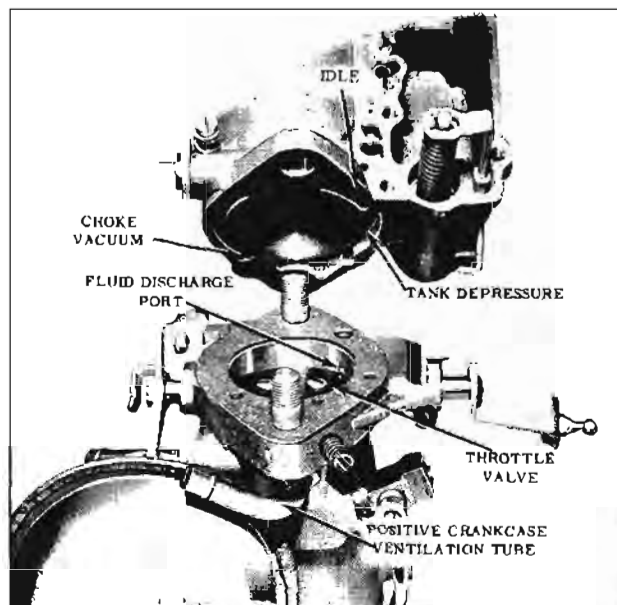

Fig. 9-125 Throttle Body Gasket
1. Install new gasket over studs on throttle body assembly. Line up holes in gasket with holes on face of throttle body flange. (Fig. 9-125)